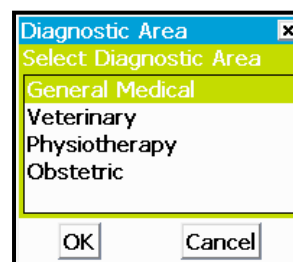

Fig 6.4 Diagnostic Area...
- Choose **Diagnostic Area...** to define which system-defined presets appear on your **Signos RT** (Fig 6.4). You may select between **General Medical**, **Veterinary**, **Physiotherapy**, or **Obstetric**. Press **OK** to apply changes.